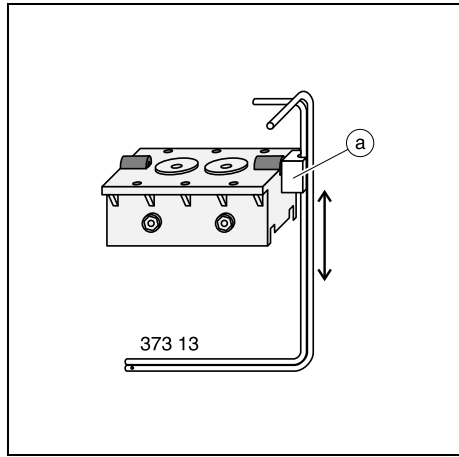
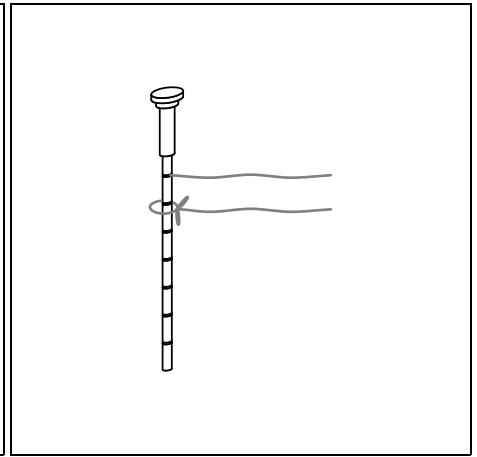

Fig. 3
Fig. 4
Zur Befestigung der Drucksonde 4-mm-Stift der Sondenhalterung ③ in die 4-mm-Buchse ⑧ des Meßwagens stecken (vgl. Fig. 3).
Ca. 25 cm langen Faden gemäß Fig. 4 in einer Schlinge um eine Nut des Fadenkamms legen. Schlinge zuziehen.
Place the dynamometer on clamp rider ③ of the open aerodynamics working section (373 06) or socket pair ⑧ of the wind tunnel (373 12) and tie it to hook ⑦ with a string (cf. Fig. 3 and 4).
Place the measurement trolley in the experiment position (cf. Fig. 3 and Fig. 4) and insert the resistance bodies in to the angle holder as far as they go.
Tie a slip knot in a piece of thread approx. 25 cm long, slide the loop over one of the grooves of the thread comb as shown Fig. 4 and pull it tight.